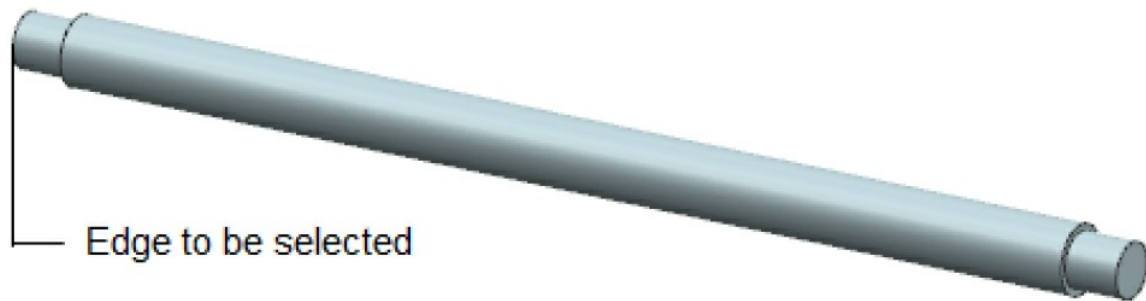

Figure 8-66 *Edge to be selected from the Handle*
6. Choose the **Distance** option from the **Constraint Type** sub-rollout. Select the YC-ZC plane of the Screw as the first object and the edge of the Handle as the second object, refer to Figure 8-66. Next, enter **86** as the distance value in the **Distance** edit box of the **Distances** sub-rollout and press ENTER.